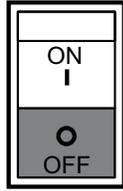

Figure 49. Circuit Breaker OFF (GFCI Test)
- Also verify that the main circuit breaker (Figure 49) switch trips to the **OFF** position.